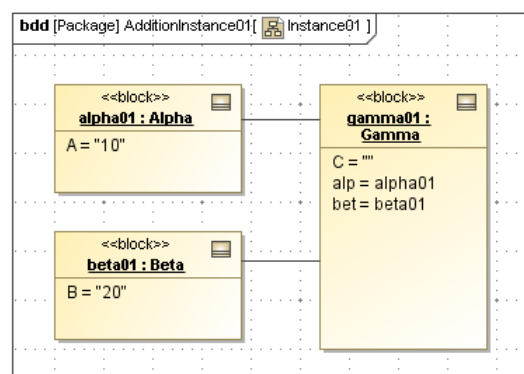

Figure 2.24 Instance diagram, final
- c. Repeat step a for **gamma01**, but do not specify a value, and for <<causality>>, select *target*. Final instance diagram should appear similar to Figure 2.24.